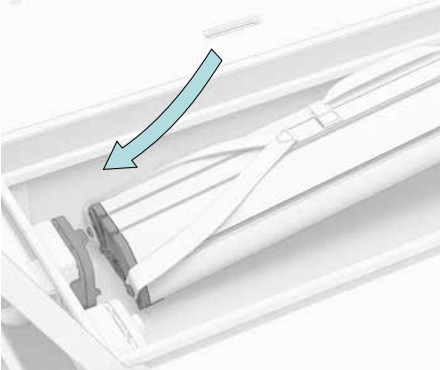

Fig. 23
1. Carefully place the back side of the rechargeable battery on the plug in the battery housing (Fig. 23).